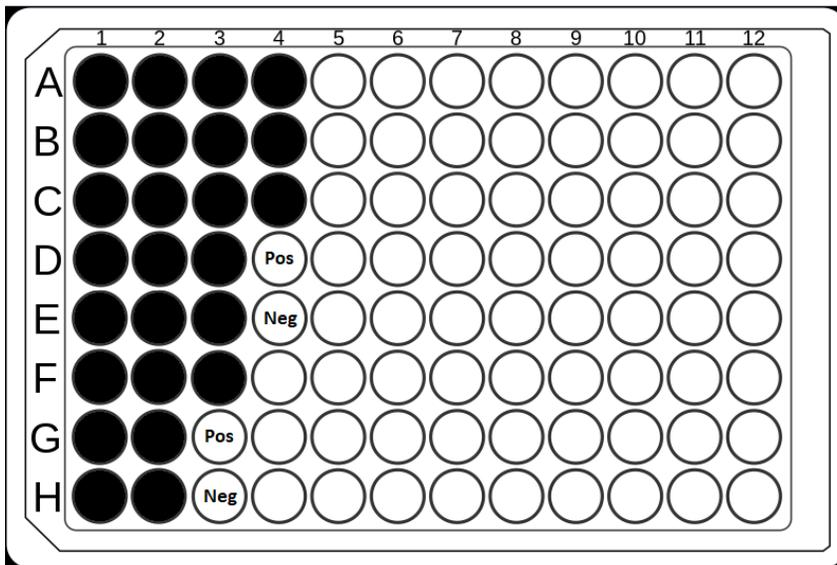

Figure 2: Example of a partial plate with 25 samples and 2 pairs of controls.
For partial plates, a pair of controls must be allocated closest to the final sample in the plate, while maintaining 1 pair of controls within each quadrant (Figure 2).
In the case of Figure 2, where the controls in column 3 meet QC standards and the controls in column 4 do not, the samples within the 1st quadrant pass, while samples in the 2nd quadrant (column 4) fail.
2. An input of 25 ng is used for fresh frozen (FF) tumour gDNA and 100 ng is used for buffy coat.
4. If there are insufficient samples to fill a quadrant of the plate, add a positive control and a NTC to the last two available wells (Figure 2).